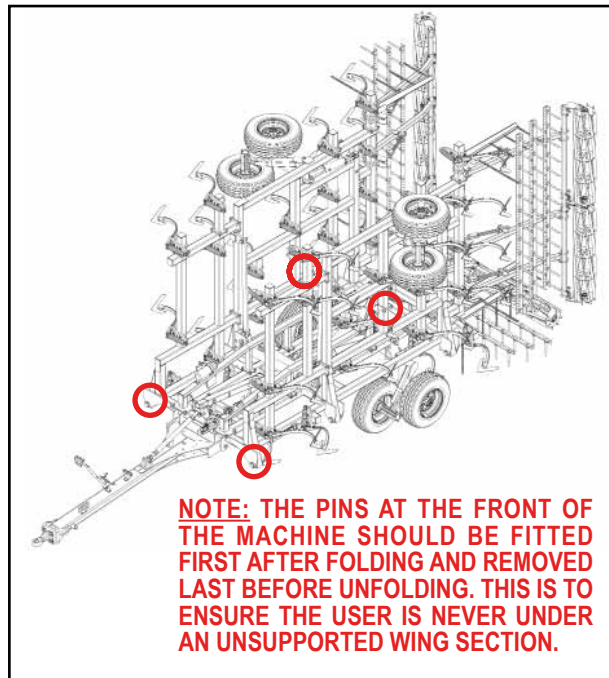

Fig. 2.03. Wing Lock Pins
3. Remove wing lock pins on each side of machine (see Fig. 2.03).
7. Fit wing lock pins (see Fig. 2.03).